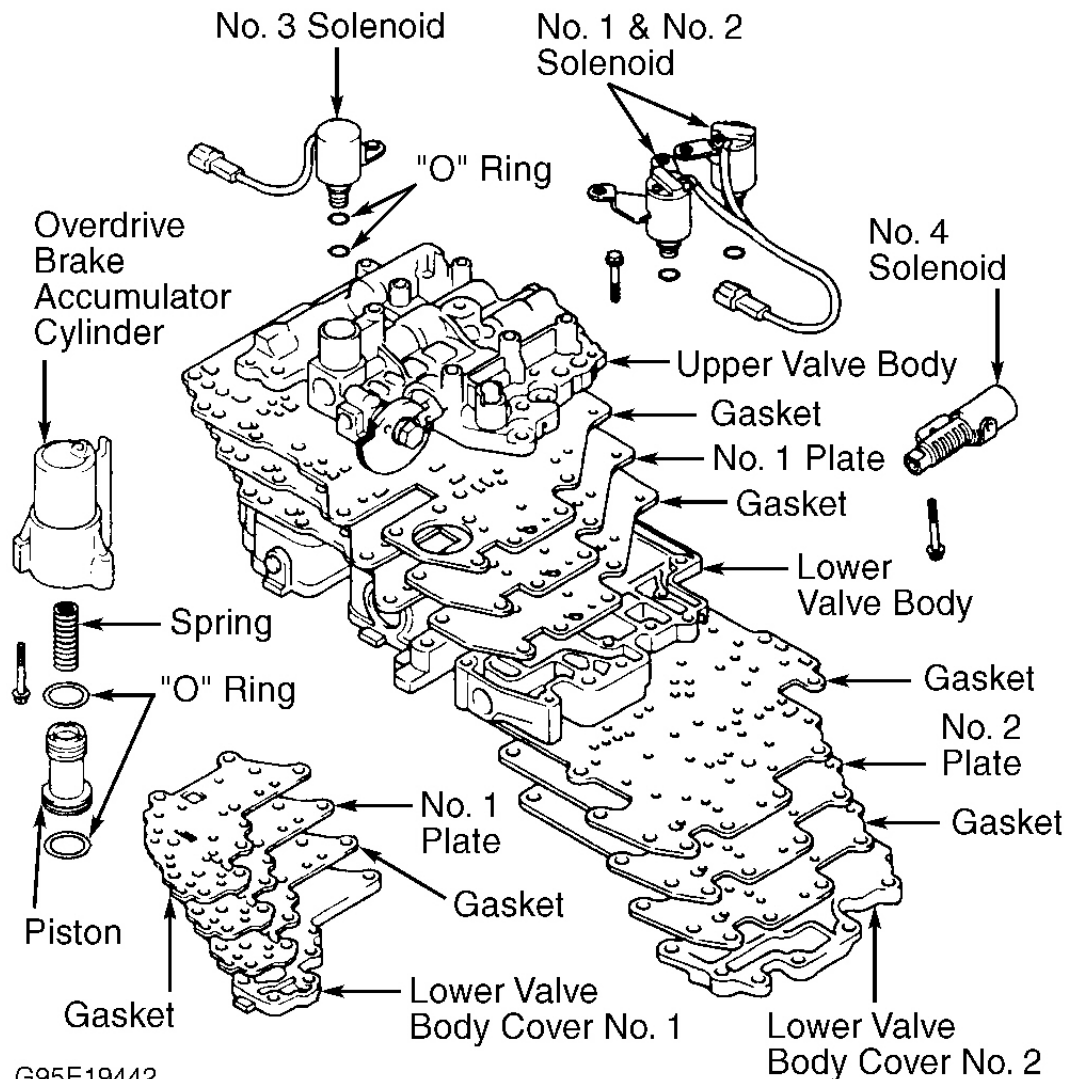

Fig. 33: Exploded View Of Valve Body Assembly (A-541E)
2. Remove lower valve body cover No. 1. See **Fig. 33** . Remove separator plate and gaskets. Remove oil strainer, check valve and spring. Remove pressure relief valve (plate, spring and check ball).